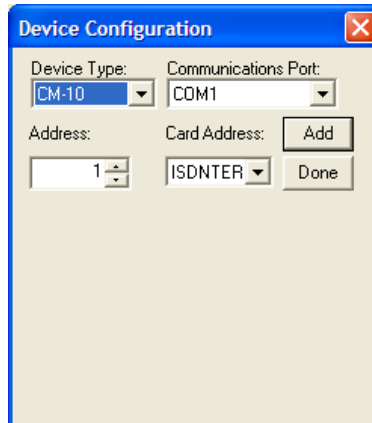

Figure 5-4. Device Configuration Window
2. On the **Setup** menu, point to **Device Configuration** and then click **Add**. The **Device Configuration** window appears (Figure 5-4).